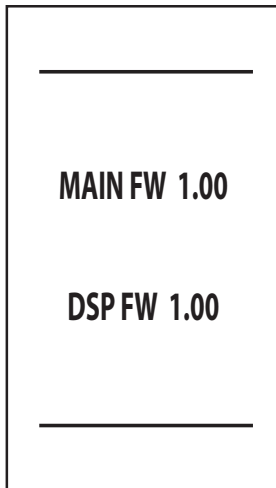

fig. 7- Switching on / Software version
- During the first 5 seconds the display shows the software version of the board and display (fig. 7).